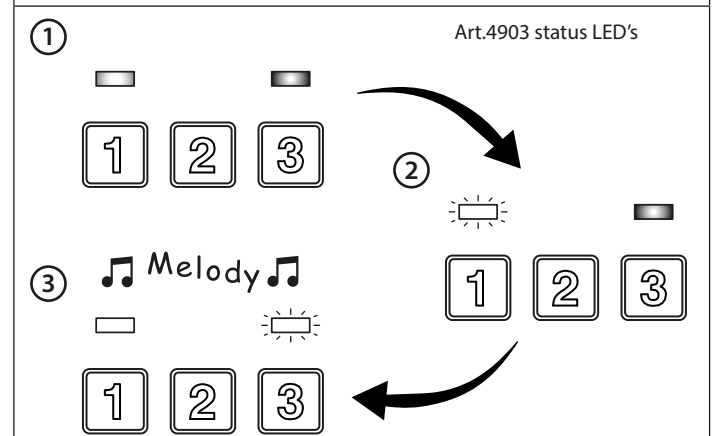

Fig. 105
2. Both the LED's on the keypad will switch ON (**Fig.105, ①**). The green data LED will then switch OFF (**Fig.105, ②**), followed by the red status LED and the codelock will play a melody (**Fig.105, ③**);